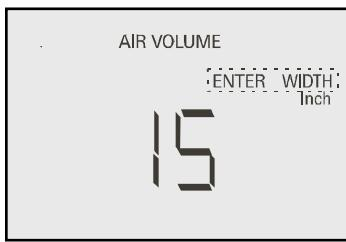

Figure 5
**5.4.1** Press the MODE button - AIR VOLUME and “ENTER WIDTH” (flashing) will be displayed on LCD. (Fig. 5) The VA500A is requesting the A/C outlet’s width.